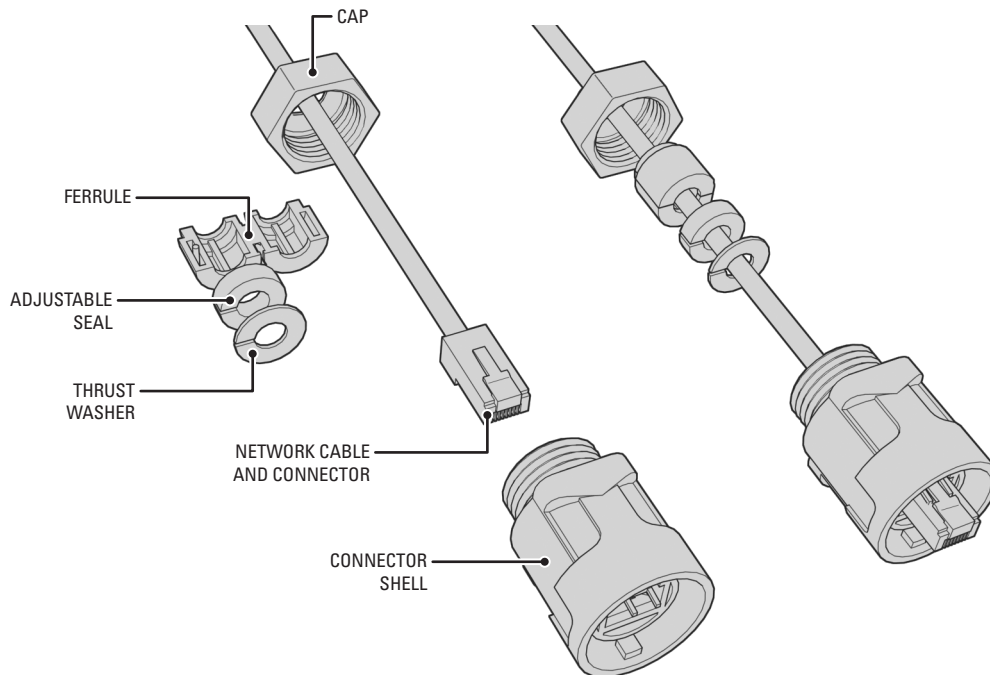

Figure 7. Assembling the Weatherproof Network Connector
2. Install the supplied weatherproof network connector onto the network cable at the mount site (refer to Figure 7):